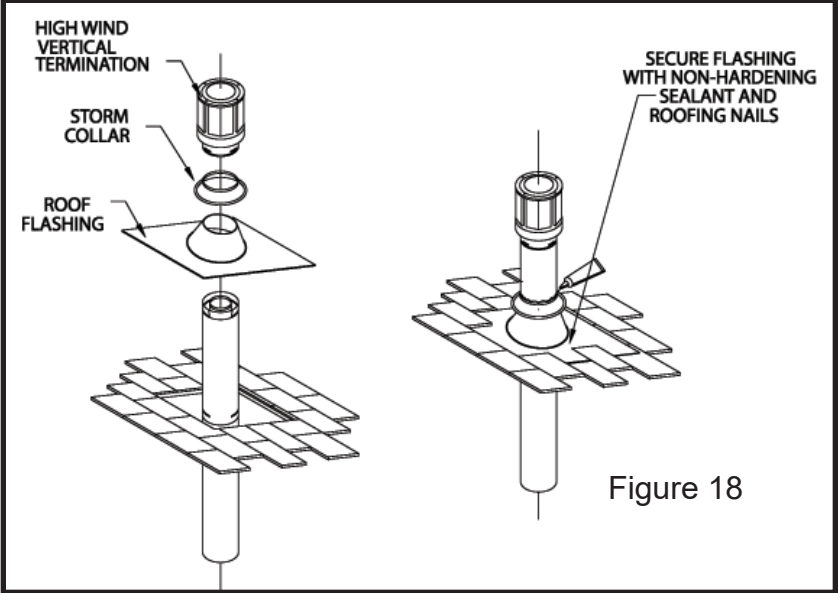

Figure 18
Section(s) protruding through the roof. Use a non-hardening sealant between the Roof Flashing and the roofing to prevent water leakage. Secure the base of the Roof Flashing to the roof with roofing nails. Ensure the roofing material overlaps the top edge of the Roof Flashing (Fig. 18). Verify that you have at least the minimum clearance to combustibles at the roofline and in the attic.
Step 9. Slip the Storm Collar over the Pipe Section, and push it down to the top of the Roof Flashing (Fig. 18). Use non-hardening sealant between the Storm Collar and the Pipe Section.
Step 2. Using the plumb bob, mark Figure 18 the centerline of the venting system on the ceiling and drill a small hole through the ceiling and roof at this point. From the roof, locate the drill hole and mark the outline of the Cathedral Ceiling Support Box.